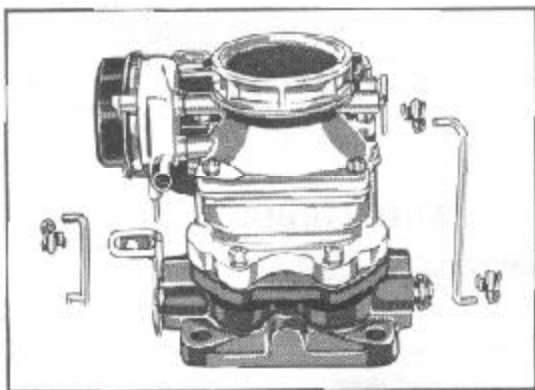

FIGURE 54
2. Remove the retainer clips and remove the throttle connector rod and choke connector rod, Figure 54.